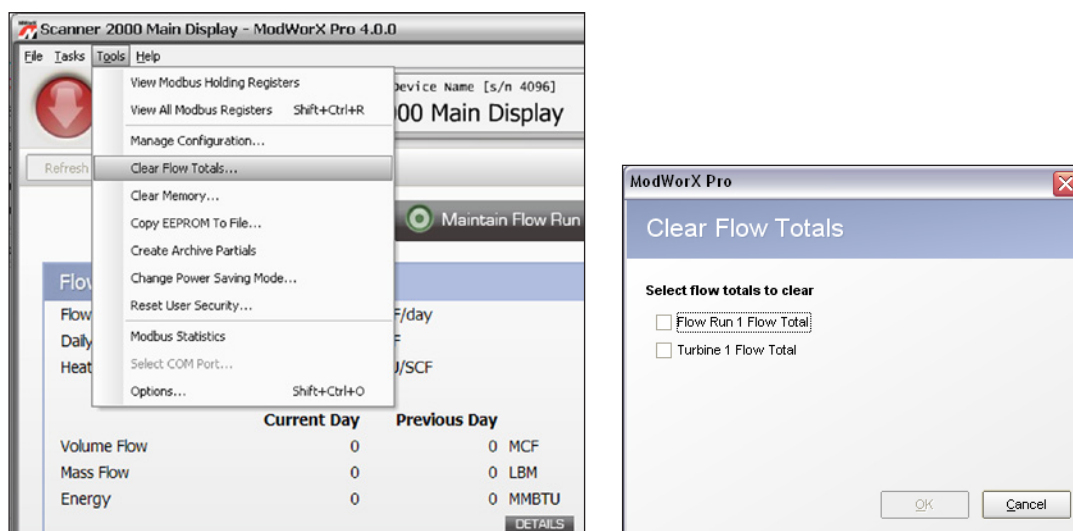

Figure A.7
1. Click **Tools>Clear Flow Totals** in the task bar (Figure A.7, page A-10).